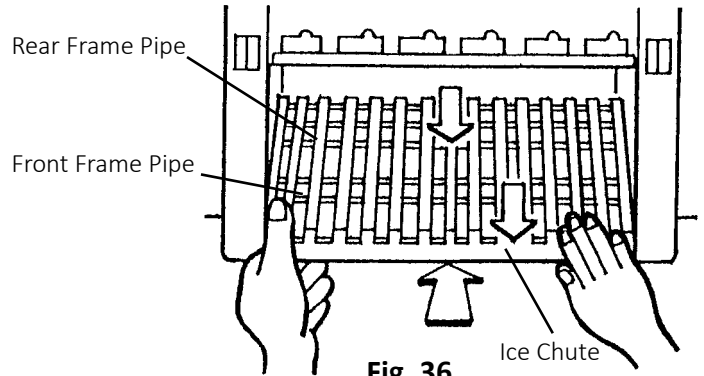

Fig. 36
13. Position and lock the ice chute onto the front and rear frame pipes by pushing the ice chute down until it clicks onto both frame pipes. See Fig. 36.